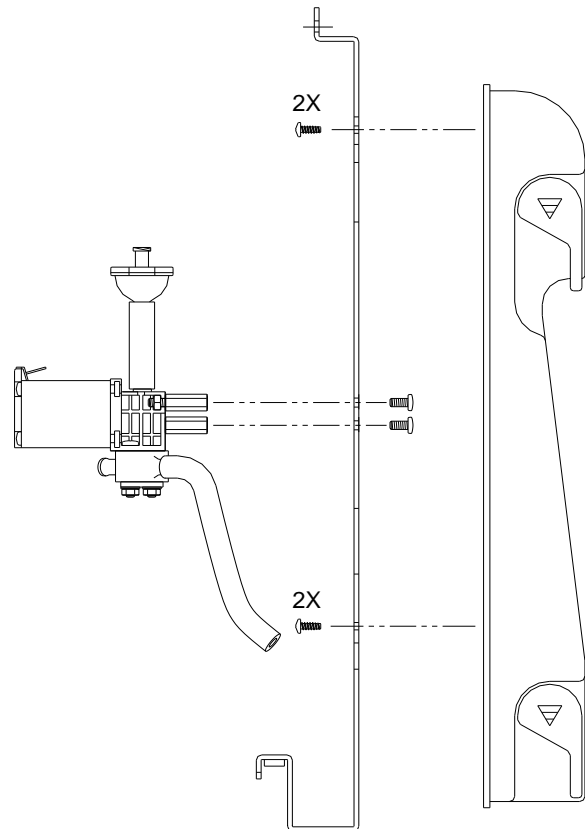

Figure 1
- 3 Remove and save the four (4) screws mounting the metal mounting plate to the DIASAFE® PLUS filter holder assembly (see Figure 1).
- 6 Remove and save the two (2) screws holding the test valve to the metal mounting plate (see Figure 1).